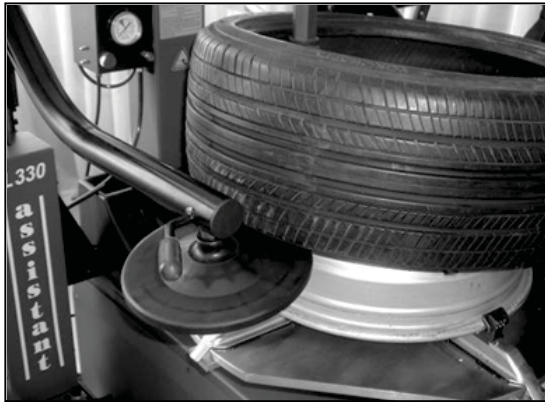
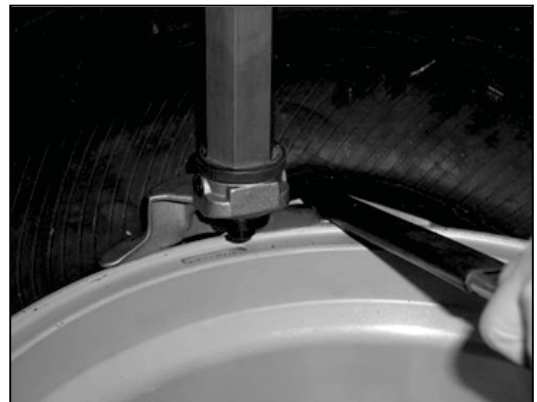

Fig. 41
Fig. 42
6.2.4 DETACH THE LOWER LIP: Use the disc to lift up the bottom section of the tire from the bottom of the mouth (Fig. 41) and detach the lower lip (Fig. 42).